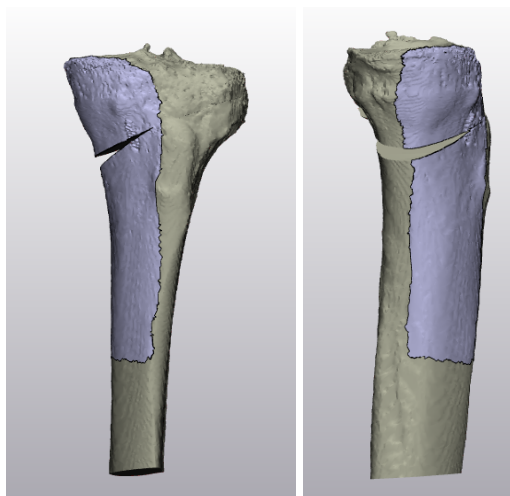

Figure 1: In blue the selected surgical window on the tibia of patient 1. Left a frontal view, right medial.
The surgical window has to be cut out in 3-matic. You have to use the postoperative tibia, so with the wedge already planned, as the imported file. Using the "*Brush Mark, Wave*" tool under "*Mark*" you can select the right areas described below. See figure 1 for the example of what the surgical window should roughly look like.
- **Medial limit.** The medial condyle of the tibia is the medial limit, because that is where the medial collateral ligament (MCL) attaches to the bone. The boundary of the surgical window is a little bit harder to define here than at the tuberosity, since the medial condyle has a larger area and the MCL attaches somewhere there without an obvious landmark. We decided that the limit should be halfway through the condyle. So, if you have a frontal view to the tibia, turn it 45 degrees to medial, so now you look straight at the medial condyle. Now you can select the surgical window halfway through there with a straight line downwards. For more clarity, see figure 1.